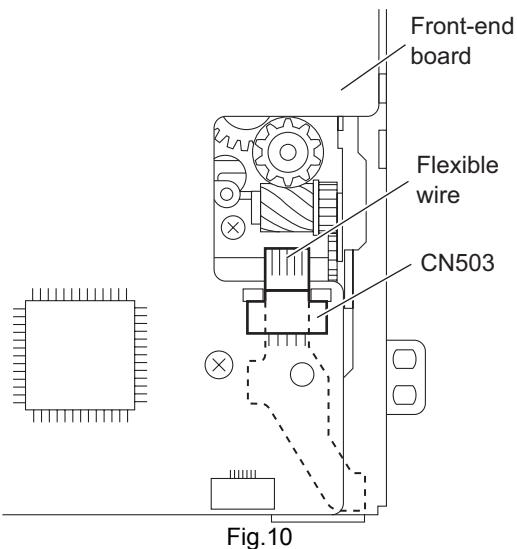

Fig.10
- (1) From the bottom side of the mechanism section, disconnect the flexible wire from connector CN503 on the front-end board. (See Fig.10)